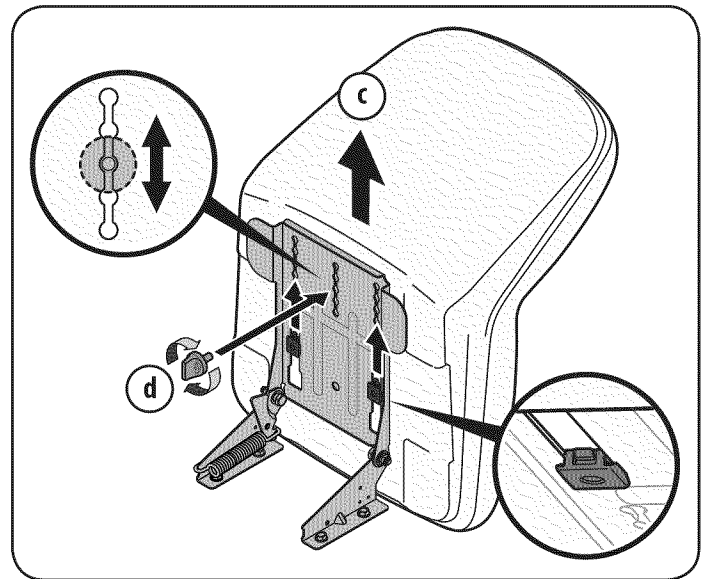

Figure 5
3. Slide the seat rearward in the seat pivot bracket (c), lining up the center rear slot in the pivot bracket with the remaining hole in the seat's base. See Figure 5.
Note: Be certain the two seat tabs engage the pivot bracket as shown in the bottom inset of Figure 5.
4. Select desired position for the seat, and secure with the adjustment knob removed earlier (d in Figure 5).
5. To adjust the position of the seat, remove the adjustment knob on the bottom of the seat. Slide the seat forward or backward as desired. Reinstall the adjustment knob. See Figure 5.